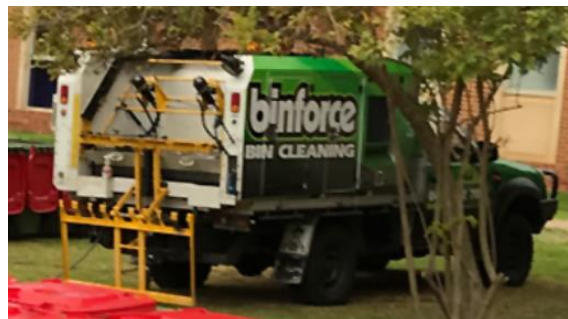

Figure 5-8 On-site bin wash system for rear-lift trucks on back of ute. Source: <http://binforce.com.au/>
- These external contractors generally have self-contained bin washing systems on back of ute or truck that enable them to clean bins on site – e.g. Figure 5-8 below.